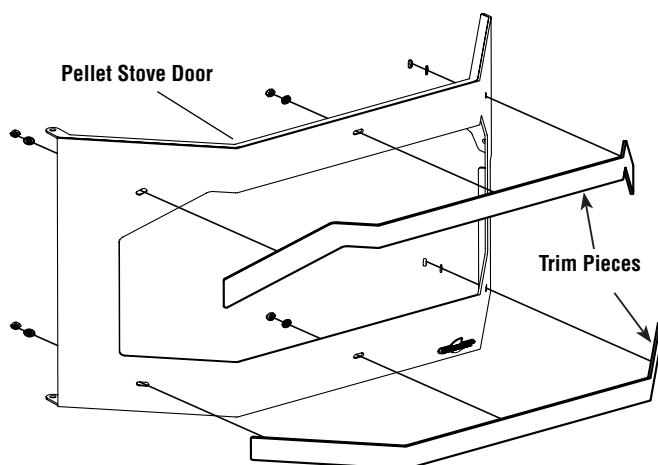
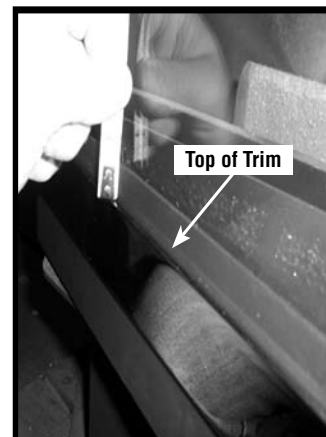

Figure 22
Figure 26
3. Open front door. Put trim in place by inserting trim studs into the corresponding holes in the door (**Figures 22 and 25**). The top piece of trim will only fit in one direction, but the bottom piece can be installed incorrectly. When placing the bottom piece of trim, make sure there is a 9/16" gap between the top of the trim piece and the glass in the door (see **Figure 26**).